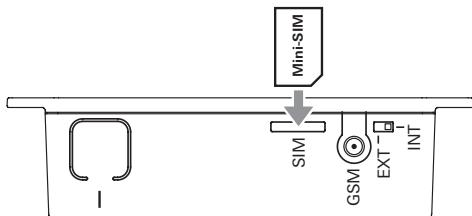

Figure 3 – Mini-SIM card
- Push the Mini-SIM card into the "SIM" slot as shown (Figure 3) until it engages.